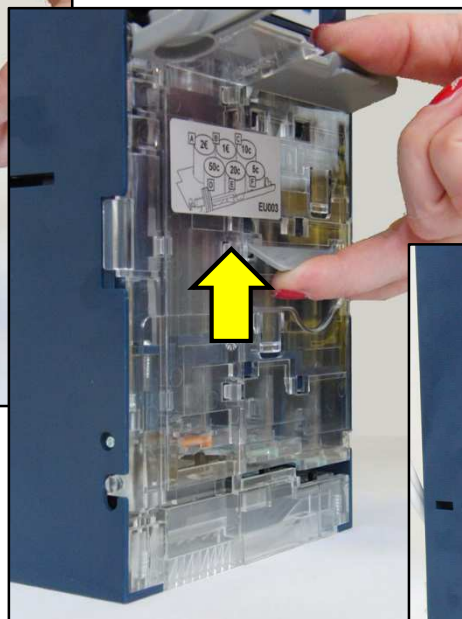

Fig.4B
3. Lift up the tube group (Fig.4B) so that tubes snap free of their ejectors.